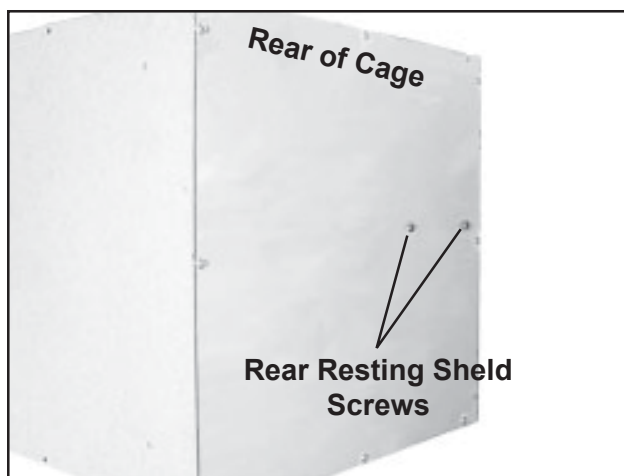

Figure 47. Resting Shelf Screws on Rear of Cage
2. With a second person supporting the resting shelf, use a Phillips screwdriver to remove the two resting shelf screws on the rear of the cage (Figure 47).
6. Install the two screws removed in *Step 2* through the rear of the cage and into the resting shelf (Figure 47).